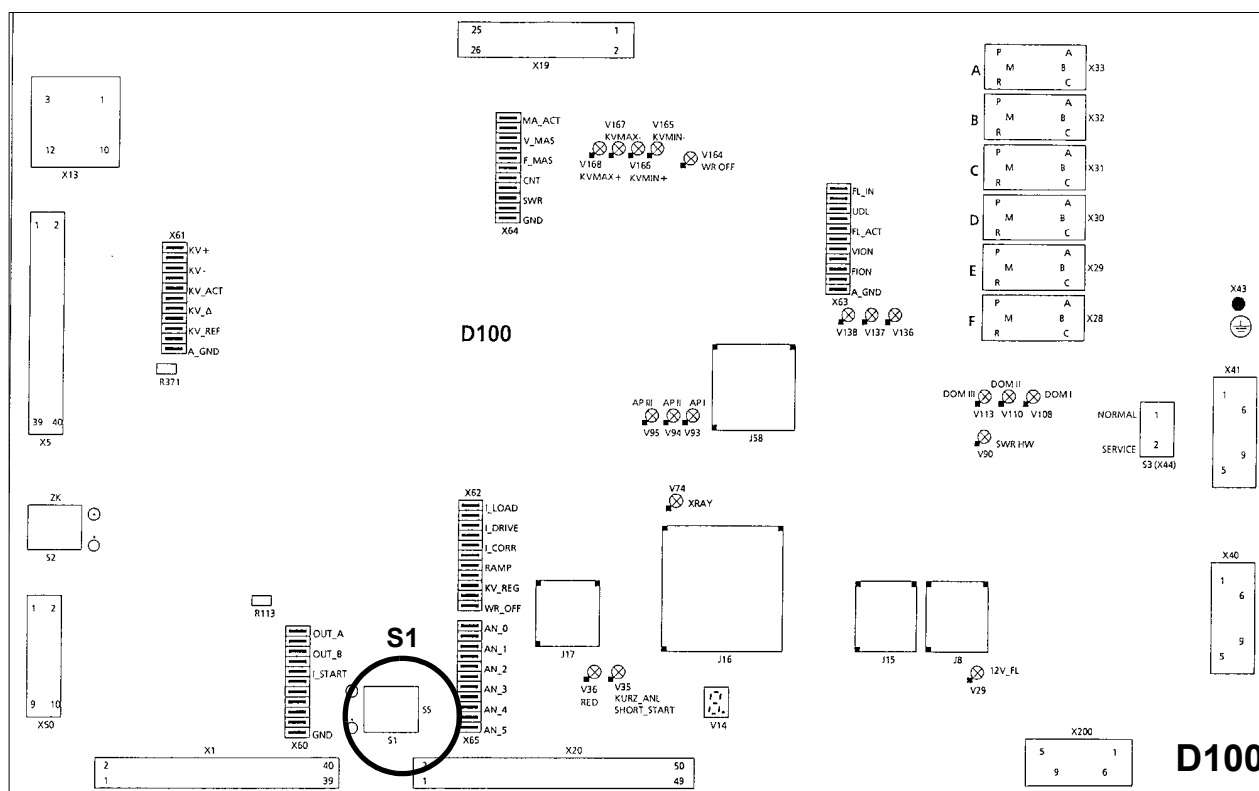

Fig. 1
- Set the S3 switch (W12 board) to service mode (Fig.1).
- Set the SS switch to **OFF** and ZK to **ON** (Fig. 1) on board D100 of the generator.
- Set the SS switch on board D100 to **ON** (Fig.1)..